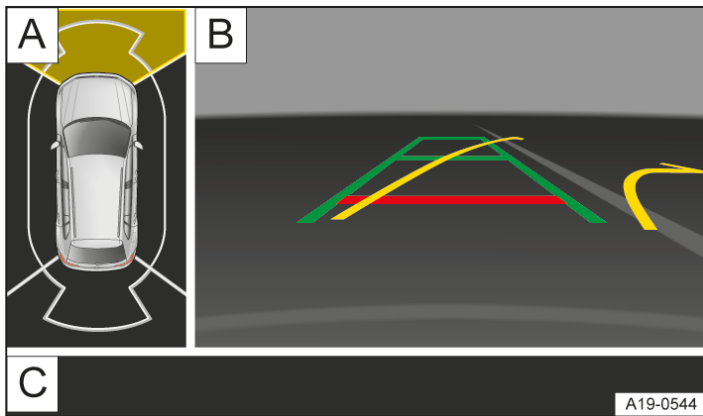

Fig. 1 Infotainment system: Area View in "front bay parking" mode (illustration).
1. Tap the function buttons on the edge of the screen to select a corresponding display → Fig. 1 **C**.
Two screen areas are displayed on the Infotainment system → Fig. 1: